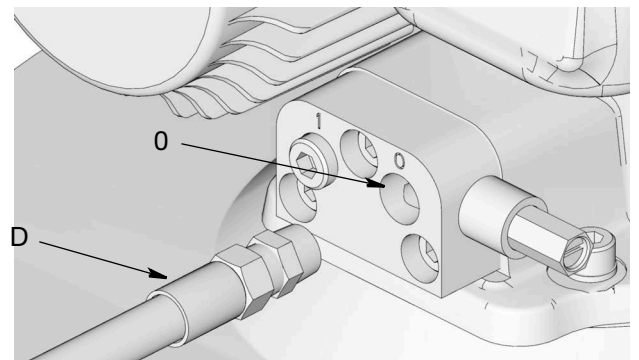

FIG. 64: Lubricant Outlet Connection
- Disconnect Timer/Controller (F) (user supplied, if used).
- Disconnect high pressure lubricant supply line (D) to the lubricant output connection (O) (FIG. 64) on the vent valve or manifold.